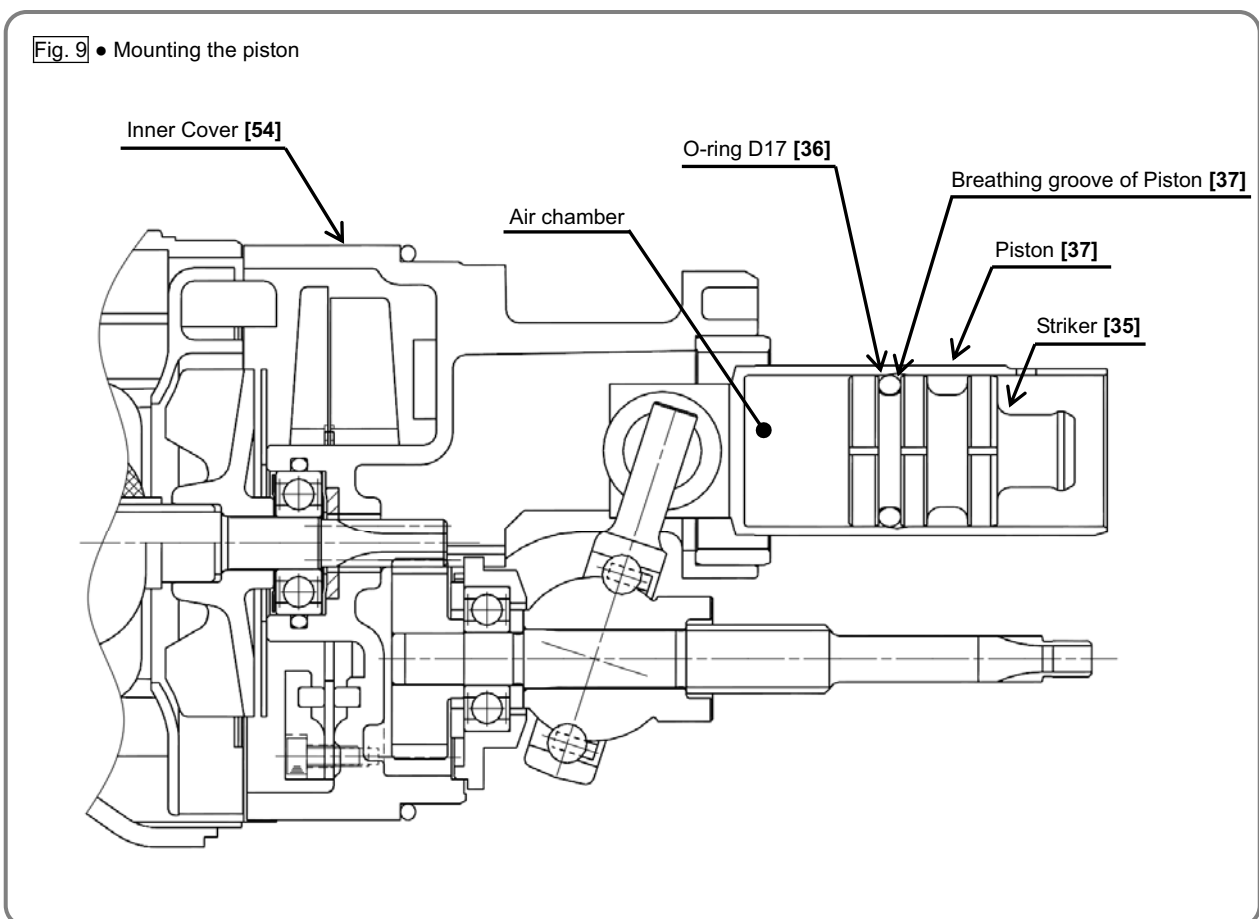

Fig. 10 • Mounting the piston
Fill 20 grams of the specified grease into the cylinder of the Inner Cover [54] and then insert the Piston [37] into the cylinder of the Inner Cover [54]. Insert the arm of the Reciprocating Bearing (47){48}<48>((47)){48}<<48>> of the Second Shaft (46){47}<47>((46)){47}<<47>> assembly into the Piston Pin [38] so that the arm of the Reciprocating Bearing (47){48}<48>((47)){48}<<48>> is sandwiched between the two Piston Washers (39){40}<40>((39)){40}<<40>> as shown in Fig. 10.